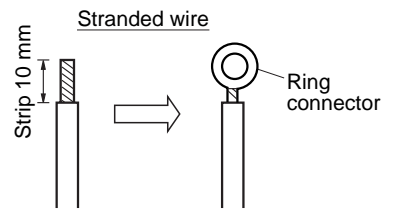
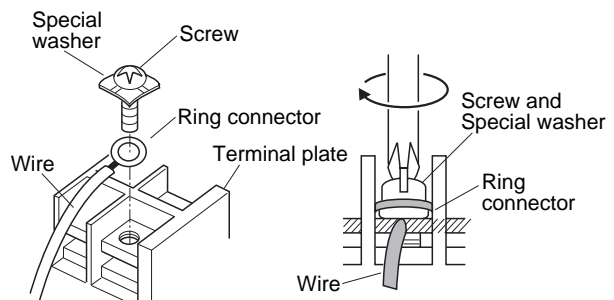

Fig. 5-5
Fig. 5-6
- (1) Cut the wire end with cutting pliers, then strip the insulation to expose the stranded wiring about 10 mm and tightly twist the wire ends. (Fig. 5-5)
- (2) Using a Phillips head screwdriver, remove the terminal screw(s) on the terminal plate.
- (3) Using a ring connector fastener or pliers, securely clamp each stripped wire end with a ring connector.
- (4) Place the ring connector wire, and replace and tighten the removed terminal screw using a screwdriver. (Fig. 5-6)